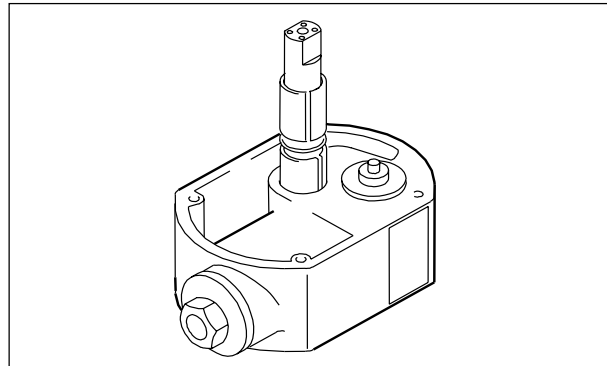

Fig. 19: Assembly of piston rod
- For assembly of plain bearing bushings and seal ring it is recommended to use the piston rod for guidance. Take care to assemble the plain bearing bushings with the slits offset to each other (Fig. 19).